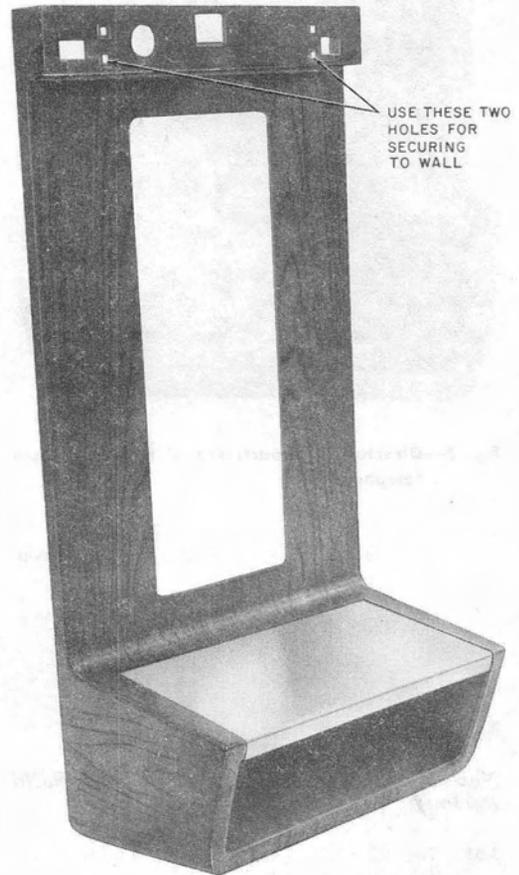
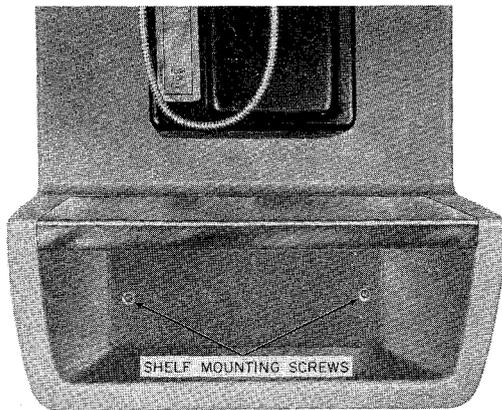

Fig. 5—KS-19945, List 36 Coin Telephone Shelf
Fig. 6—Directory Compartment of KS-19945 Coin Telephone Shelf
- (2) Shelf with an 8-inch by 21-inch rectangular cutout in backplate (Fig. 5) to permit installation over an existing 1-type coin telephone set without removing set from wall.
2.07 The directory compartment, which is a part of the shelf, will accept directories up to 4 inches thick (Fig. 6).
3.04 The rear of the directory compartment has two mounting holes (Fig. 6). If drilling is required, mark location for these two holes and remove shelf. If drilling is not required, fasten shelf to wall with appropriate screws per Table B.
3.10 The rear of the directory compartment has two mounting holes (Fig. 6) and there are four 1/4-inch square holes at top of the shelf (Fig. 5). If drilling is required, mark location for the two holes in directory compartment and the bottom two 1/4-inch square holes in top edge of shelf and remove shelf. If drilling is not required, fasten shelf to wall with appropriate screws per Table D.